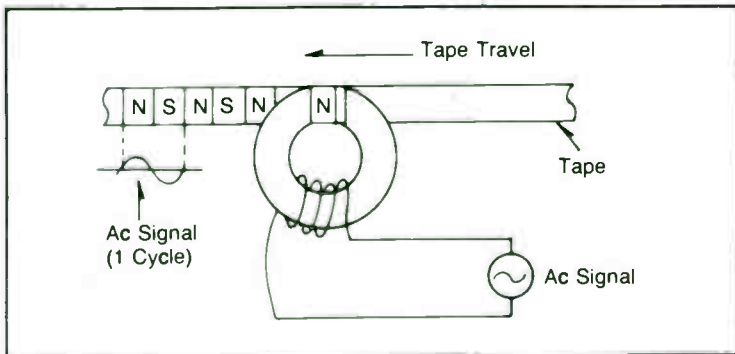

Fig. 1-20. Ac polarity change of head.
As an example: the tape will have differently magnetized regions, which can be called north (N) and south (S), according to the ac signal. When the polarity of the ac signal changes, so does the direction of the magnetization of the tape, as shown by one cycle on the ac signal as shown in Fig. 1-20. If the recorded tape is then moved past a head whose coil is connected to an amplifier, the regions of magnetization on the tape will set up flux across the head gap which will in turn induce a voltage in the coil to be amplified. The output of the amplifier, then, is the same as the original ac signal. This is essentially what is done in audio recording, with other methods for improvement like bias and equalization.